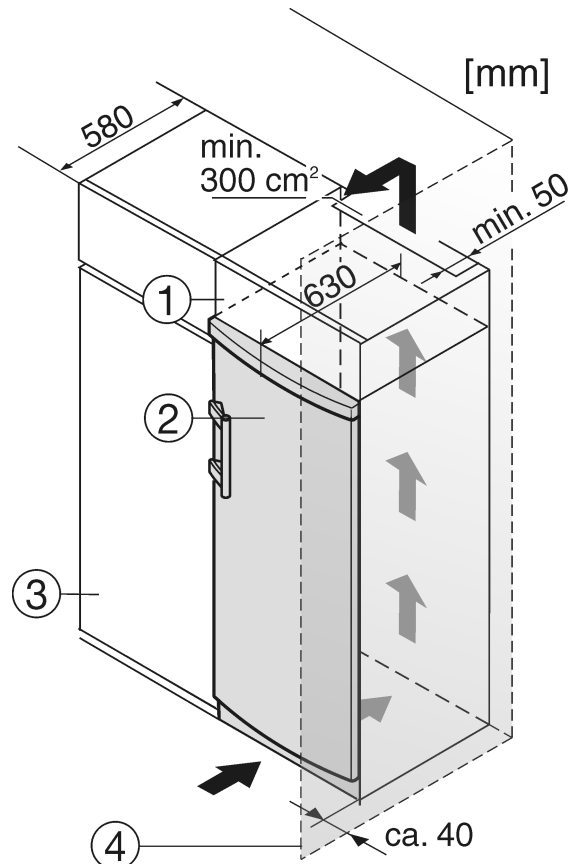

Fig. 10
- (1) Stack cabinet
- (2) Appliance
- (3) Kitchen cabinet
- (4) Wall
The appliance can be inserted into a row of kitchen units. To match the appliance Fig. 10 (2) to the height of the row of units, a suitable stack cabinet Fig. 10 (1) can be fitted above the appliance.
When inserting the appliance into a row of kitchen units (max. depth 580 mm), the appliance can be installed directly next to the kitchen unit Fig. 10 (3). The appliance door projects relative to the front of the kitchen unit by 34 mm at the side and by 50 mm in the middle of the appliance. It can be opened and closed perfectly as a result.
If the appliance is installed with the hinges next to a wall Fig. 10 (4), the distance between appliance and wall has to be at least 40 mm. This corresponds to the projection of the handle when the door is open.